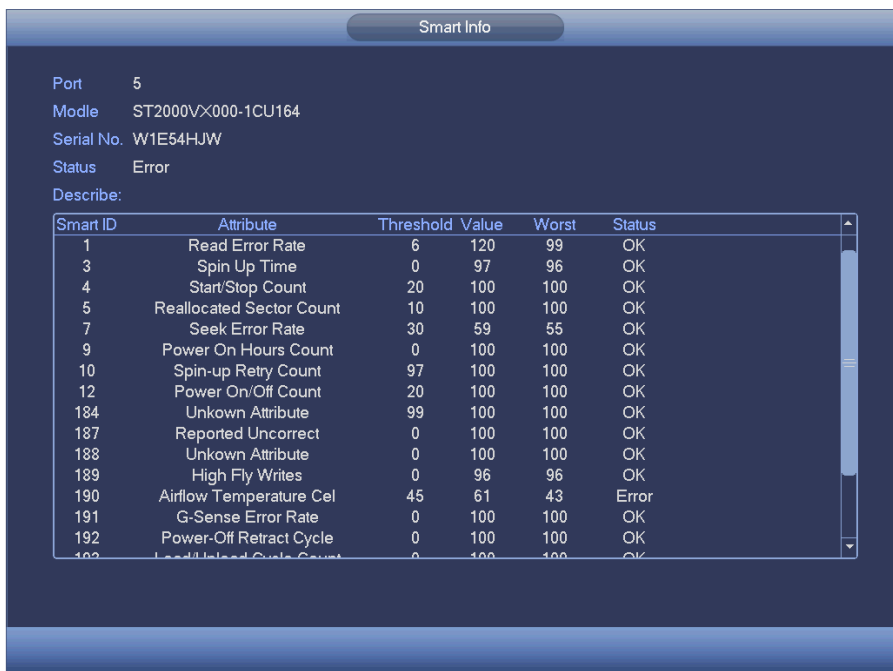

Figure 4-46
- SMART: Display HDD information. See Figure 4-46.
Double click one HDD information; you can see the HDD SMART information. See Figure 4-46.